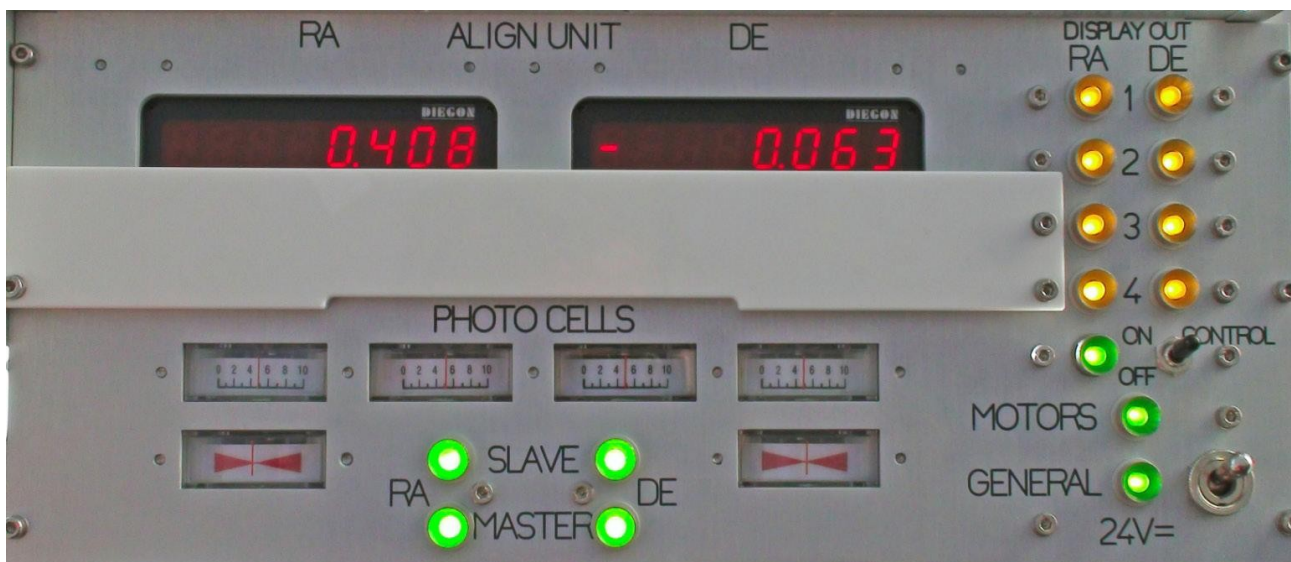

Figure 15: Control panel of the Slave-unit in working situation
**Important notice:** at times when one or both of the Master LED indications (the two lower LED's) lights up red, the Master telescope is not aligned (under the condition that the light intensity is not too low). Which means that the Master telescope guiding system is not working properly or the user has made a wrong adjustment in the RA-direction and/or DE-direction of the Master telescope. So the Align-unit will not make adjustments if the Master telescope is not aligned! Figure 15 shows the entire control panel of the Slave-unit in working situation.